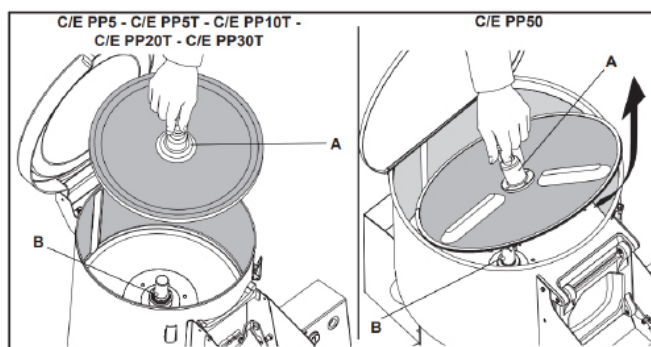

Fig. 8
- Reinstall the disc when this is complete. Make sure that the joint (Fig. 8 reference A) located under the disc matches the drift plug on the shaft (Fig. 8 reference B).